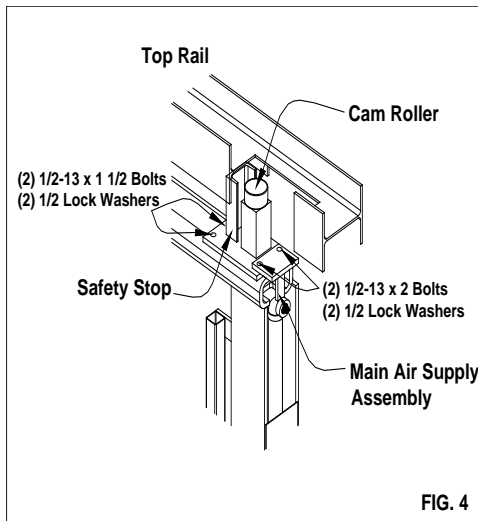
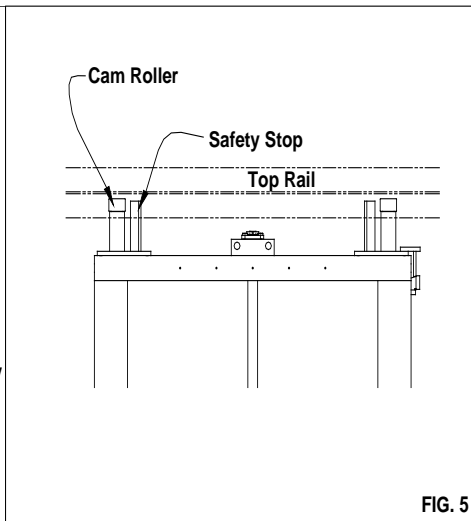

FIG. 4
FIG. 5
- B. Once the lift has been positioned under the top rail, the cam roller & safety stop assembly can be bolted on the top lift tube (see figure 4), this will lock the lift into operating position. (Caution- until the cam roller assembly is bolted in place, the lift is only being held into the vertical position by the lifting device.) The cam roller assembly bracket includes a 3" channel x 6" long vertical stop (see figure 5). In the event that a cam roller should fail or cam block should fatigue, the vertical stop will prevent the lift from falling forward.